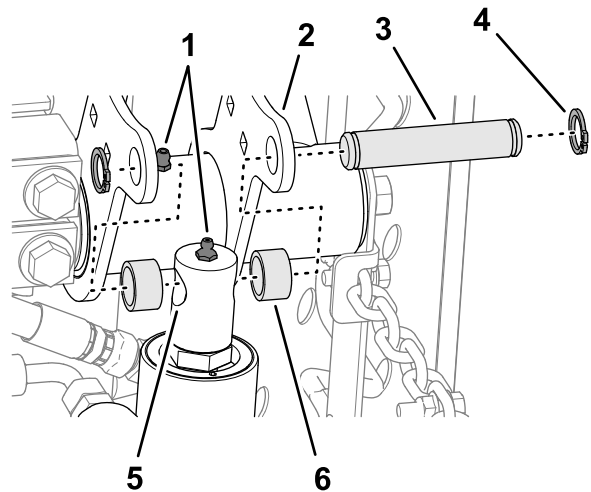

Figure 13
4. Slowly move the lift-cylinder rod until it aligns with the holes in the right lift-arm flanges (Figure 13).
5. Assemble the rod to the flanges with the mounting pin, 2 spacers, and 2 snap rings (Figure 13).
6. Apply No. 2 lithium grease to the grease fittings of the lift arm and the hydraulic cylinder (Figure 13).
- Align the holes in the plates of the rear-carrier frame with the holes in the cutting unit mounting plates (Figure 13).